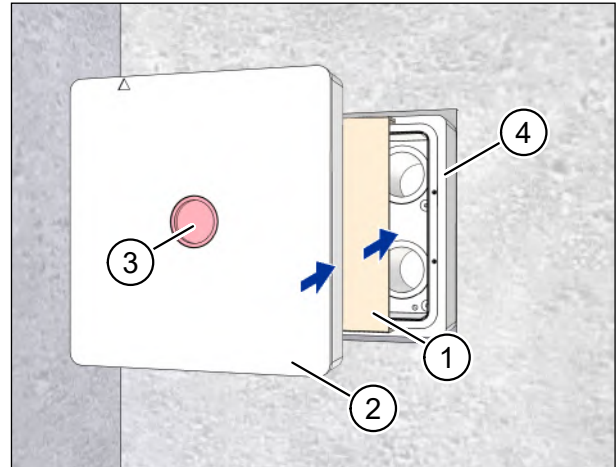

Fig. 14: Inserting the cardboard insert and plaster cover
- ▶ Insert the cardboard insert (item 1 in Fig. 14) into the wall box (item 4 in Fig. 14) as far as it will go.
- ▶ Insert the plaster cover (item 2 in Fig. 14) into the wall box (item 4 in Fig. 14) as far as it will go.
- ▶ Check that the red signal cover (item 3 in Fig. 14) is seated in the plaster cover.
- ▶ Check that the plaster cover (item 2 in Fig. 14 on page 22) is inserted before filling with foam.